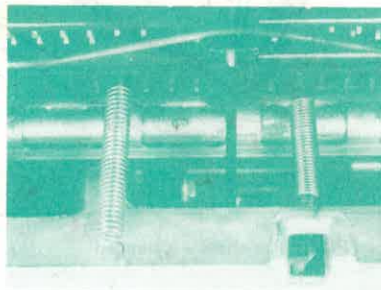

Figure 1
- 1) To activate 2 desired characters, use a pair of latch restoring springs (Mech.723, ref. 204, P/N 1147647) which will be hooked from the rear part of the interposers to one convenient anchoring point in the power frame, to pull the interposers down (Figure 1).